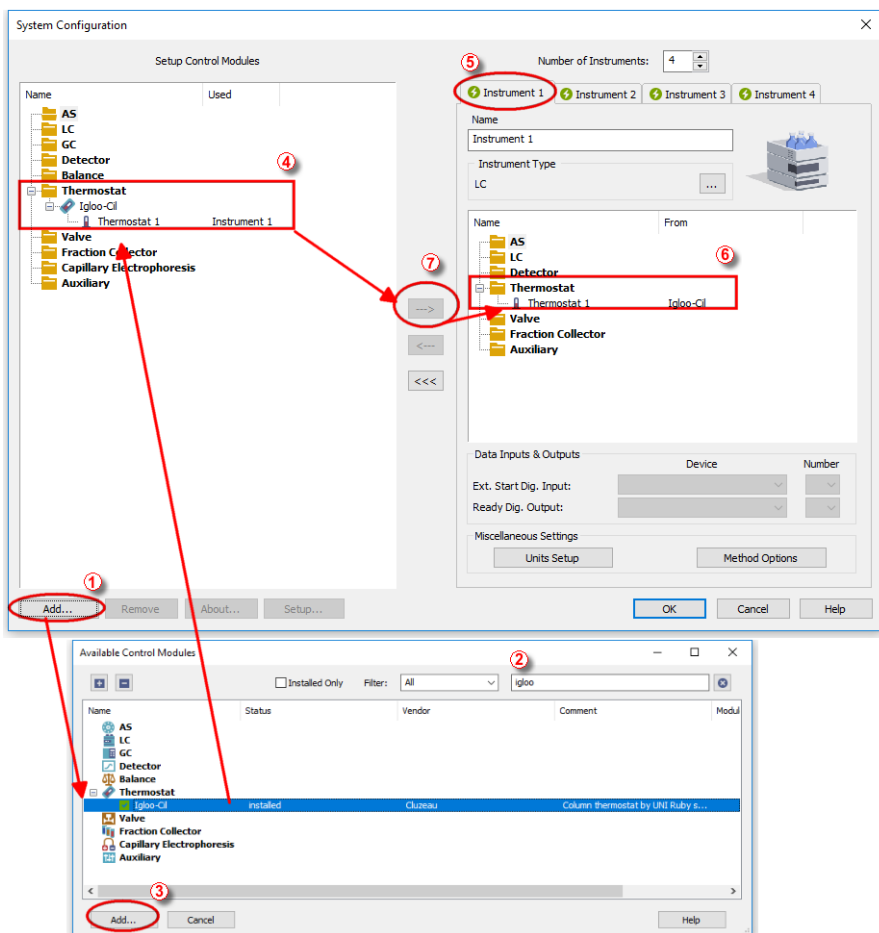

Fig 3: How to Add Cluzeau Igloo-CIL module
- Press the **Add** button (1) on Fig 3 on pg 4.) to invoke the **Available Control Modules** dialog.
- You can specify the search filter (2) to simplify the finding of the driver.
- Select the correct item and press the *Add* (③ on **Fig 3** on pg 4.) button. Each device with already created UNI profile should have its own item named accordingly in the **Available Control Modules** dialog.